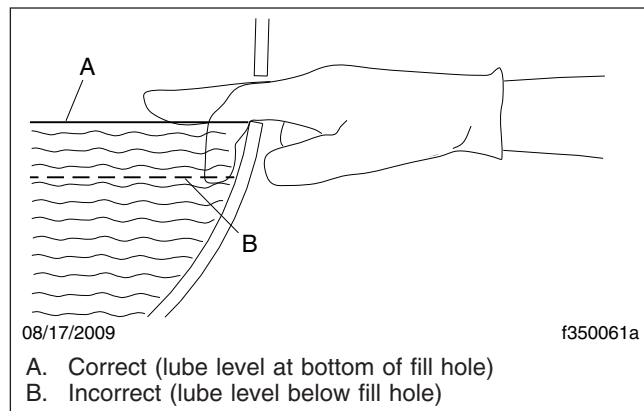

Fig. 2, Axle Lubricant Level Inspection
- 5.1 Fill the axle through the oil fill hole. Lubricant should be level with the bottom of the oil fill hole. To check fluid level, see Fig. 2.
- 6.1 With the vehicle on a level surface, fill the axle through the oil fill hole. Allow a few minutes for the oil to flow into the axle. Lubricant should be level with the bottom of the oil fill hole. To check fluid level, see Fig. 2.